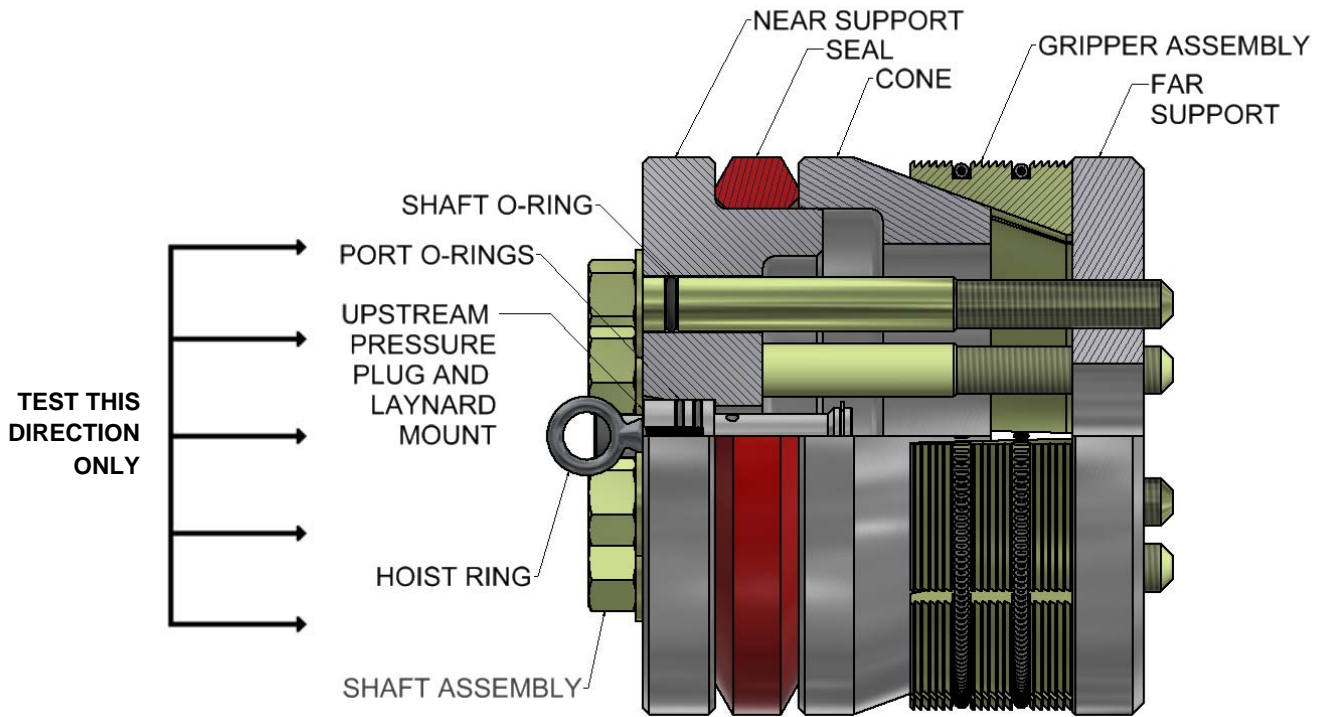

Figure 1: 8" - 12" (DN200 - DN300) GripTight Reverse Pressure Test Plug
- ⚠ Always ensure that GripTight Reverse Pressure Test Plugs are assembled as shown in Figure 1.